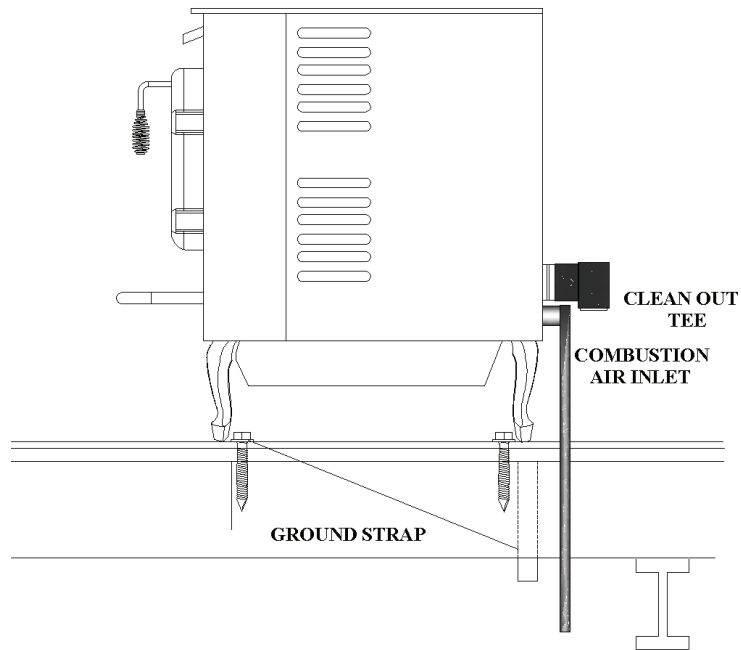
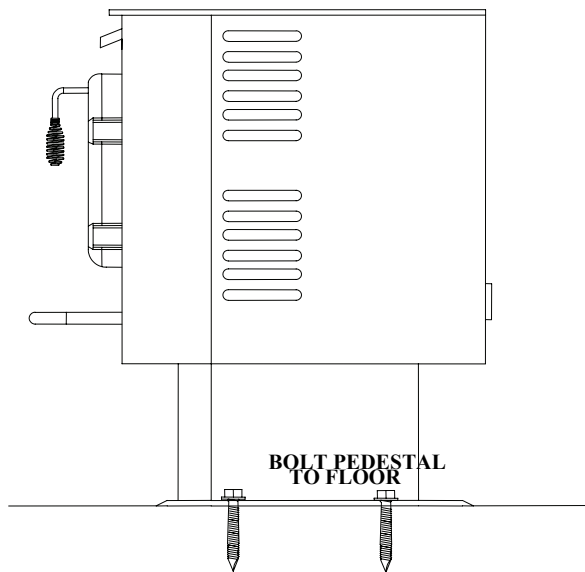

FIGURE 16: MOBILE HOME LEG INSTALLATION
FIGURE 17: MOBILE HOME PEDESTAL INSTALLATION
2. A pedestal stove may receive combustion fresh air either through the mobile home floor or through the mobile home exterior wall. FIGURE 16 and FIGURE 17 demonstrates both options.